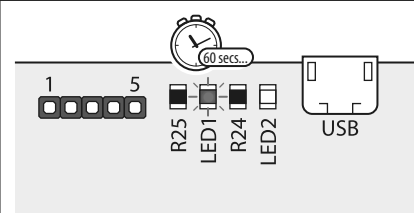

Fig. 41
4. The red LED (LED1) will then start to flash for approximately 60 seconds while it resets the master code back to **1111** (4x1), as shown in **Fig.41**.